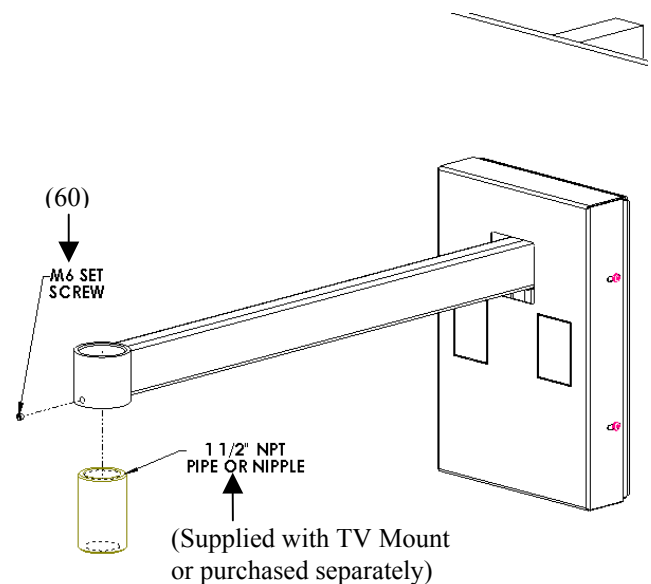

Figure 4. Connect NPT Pipe or Nipple to Wall Arm
1. Locate M6 x 6mm set screw (60) and 1-1/2" NPT pipe or nipple (supplied with TV Mount or purchased separately).
2. Connect the 1-1/2" NPT pipe or nipple (supplied with TV Mount or purchased separately) to the wall arm (10). See Figure 4.
3. Using the M3 Allen key (70), install the M6 x 6mm set screw (60). Tighten the set screw.